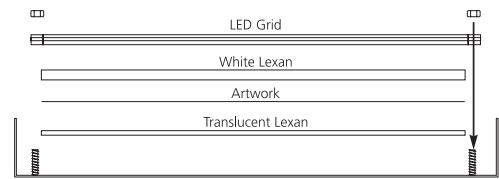

Figure 3, Assembly of graphic display sheets
3. Place the annunciator display artwork (either the supplied point artwork or your own artwork) between the translucent lexan sheet and the white lexan sheet so that the artwork can be seen through the translucent sheet. (See figure 3 below.)